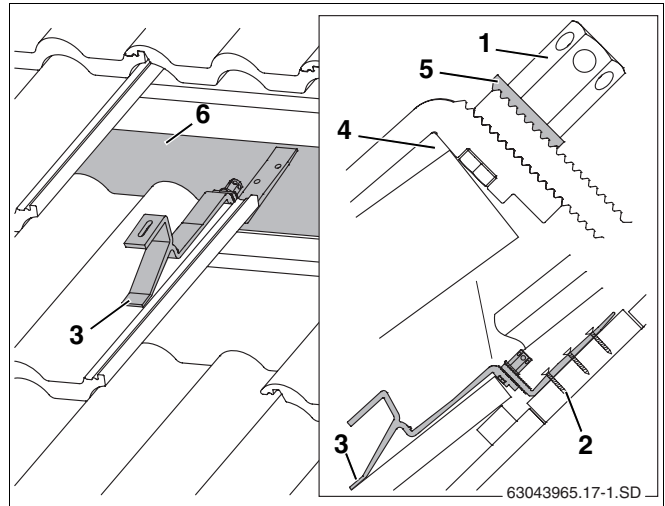

Fig. 15 Roof hook fitted (some tiles have been removed for a better view)
- ▶ Lay front brace onto the tile so that when subjected to a load it lies in a tile trough (Fig. 15, **Item 3**).
The roof hook must have some clearance along the upper edge of the tile (Fig. 15, **Item 4**). Adjust the top of the tile if necessary.
- ▶ Push the lower part of the roof hook down until it lies on the joist or on the boards (Fig. 15, **Item 6**).
The serated washer (Fig. 15, **Item 5**) must grip the teeth on the lower part of the roof hook.
- ▶ Tighten the long hexagon nut (Fig. 15, **Item 1**). To do this, insert the size 5 Allen key into the hole in the hexagon nut and turn.
- ▶ Using suitable screws, fasten the lower part of the roof hook into the first (Fig. 15, **Item 2**) and second holes (at least) of the joist.